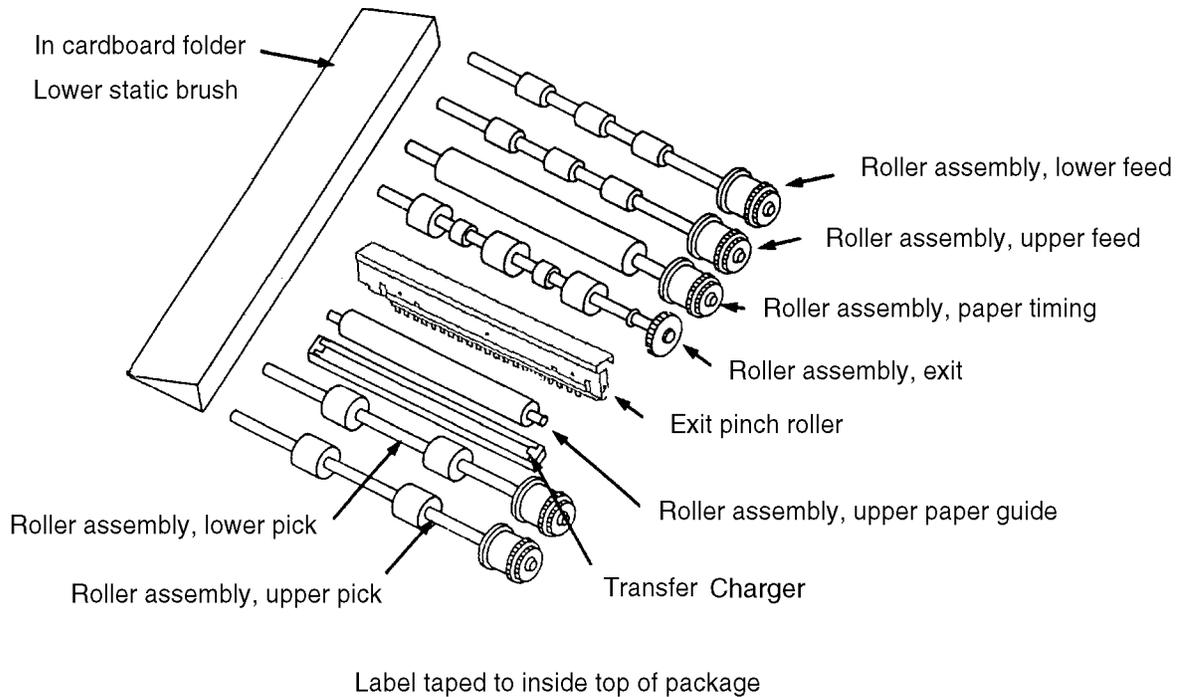

Figure 9-6. Tune-Up Kit Components
- 3** Make sure that you have received all of these replacement components, shown in Figure 9-6, “Tune-Up Kit Components,” on page 9-17: